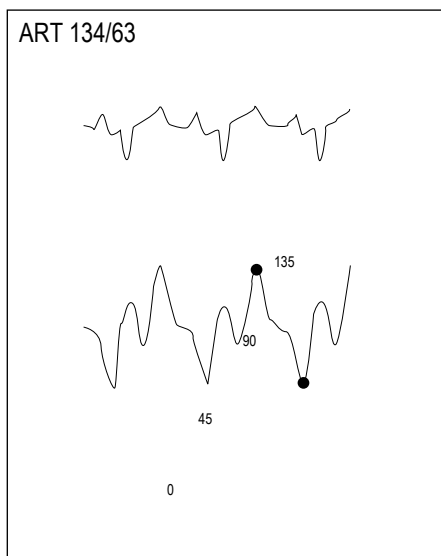

Figure 1
- When the augmented diastole is greater than the patient systole, the displayed systole will equal the augmented diastole. (See figure 1, Augmented Diastole > Patient Systole, below.)